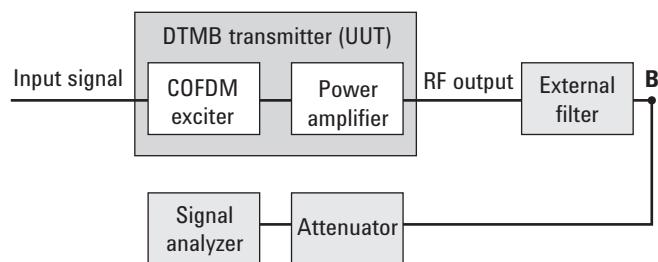

Figure 6. Diagram for spectrum mask measurement on a DTMB (CTTB) transmitter without an output filter
When the transmitter does not have an output filter, an external filter with a band-block filter frequency response should be added after the transmitter for the measurement arrangement shown in Figure 6.
- B. Measure the signal transmitted at point B as shown in Figure 6.
- C. Apply amplitude correction on spectrum value measured in (2) using the filter's response from (1).